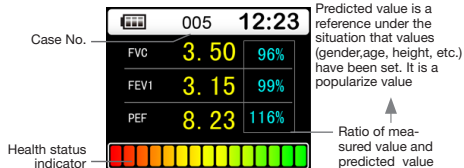

Figure 4 Main parameter interface
2. In (Testing) interface, breath in fully, seal the lips around the mouthpiece and blast all air out as forcefully as possible in a minimal amount of time, wait for a few seconds, the device will enter (Main parameter) interface as shown in Fig.4.
**a. Main parameter interface:** display the ratio of predicted value and measured value of three main parameters. Ratio reflects health status, correct settings of personal information is the key to obtain accuracy ratio. Besides, this interface can also display battery status, time, case number and health status indicator, as shown in Fig.4.